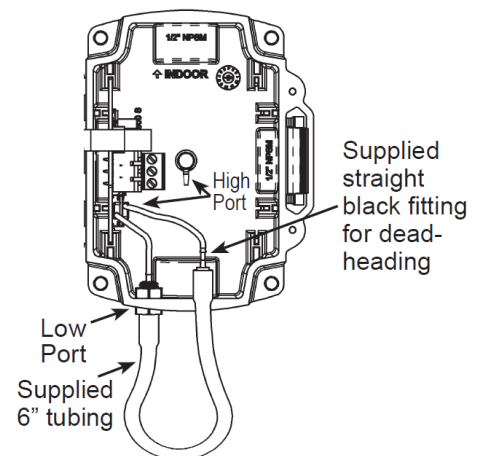

Figure 3: Deadheading ports on units with attached tube (-AT)
3. Disconnect the short clear tubing from the 90° black Attached Tube fitting with your fingers (Fig. 3). A pliers may cut the tubing.